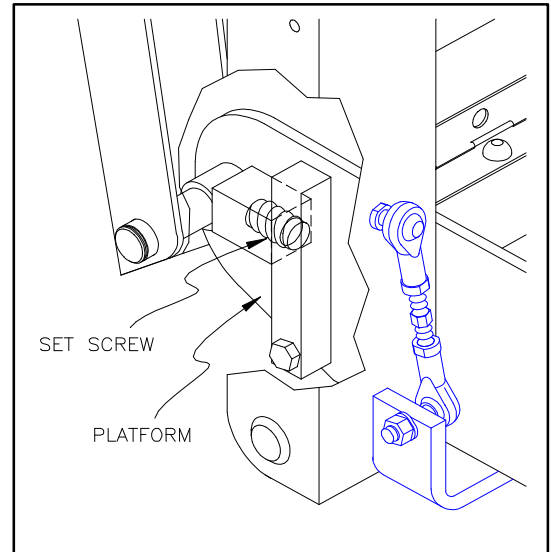

FIGURE 2-19: PLATFORM SET SCREWS
- b. b. Refer to **Figure 2-19**. Adjust left/right platform set screws until platform is level at zero (0) degrees. Turn setscrews clockwise to angle front-end of platform upward, or counter-clockwise to angle downward.